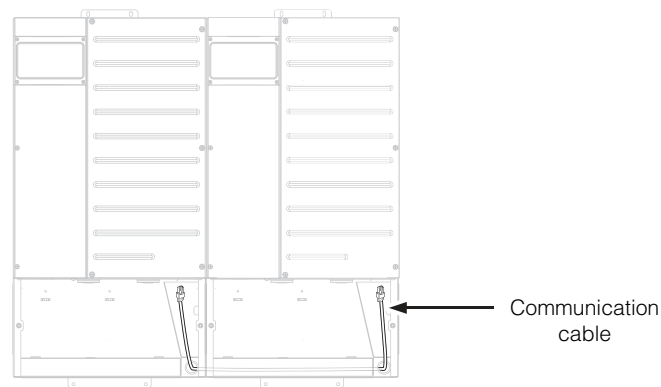

Figure 4-6 Installing the AC sync and Xanbus cables
3. Route the cable as shown in Figure 4-6. Route any additional communication cables through the raceways. Replace the wiring raceways, ensuring not to pinch the cables. Secure the raceways to the Conduit Box with the screw that was removed earlier.